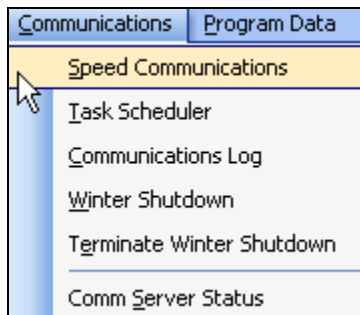

Figure 17.0.1
1. From the toolbar at the top of the screen select **Communications** then scroll down to **Speed Communications** and click on it (Figure 17.0.1).